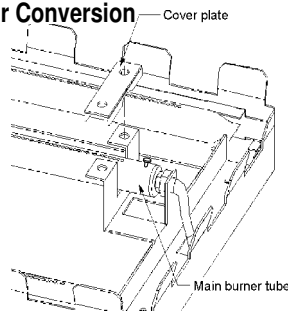

Figure 5. Main Burner.
11. Remove cover plate on both ends of the main (center) burner and remove main burner tube. (See figure 5)